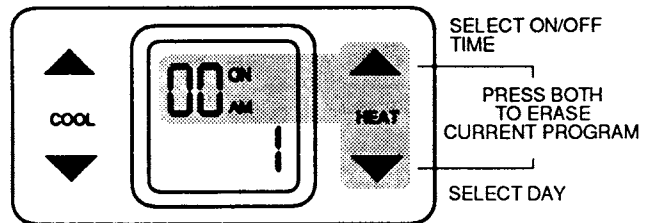

Fig. 12 — Erase Current Day Schedule
3. Erase the current program for this day by pressing the Select Day and Select ON/OFF buttons at the same time. Two zeros and the word ON will be displayed. See Fig. 12.